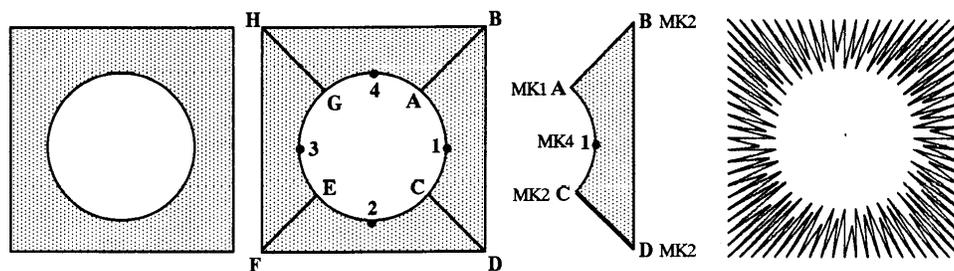

Figure 3-31
Another sample of curve smoothing is shown in Figure 3-31. Suppose you wanted to digitize column stitches in the shaded area of the shape shown at the left in Figure 3-31.
1. Plot the shape by dividing it into four similar sections as shown in the second from left illustration in Figure 3-31.
6. Now continue this process until all four sections are digitized. You should get a result similar to the illustration at the right in Figure 3-31.